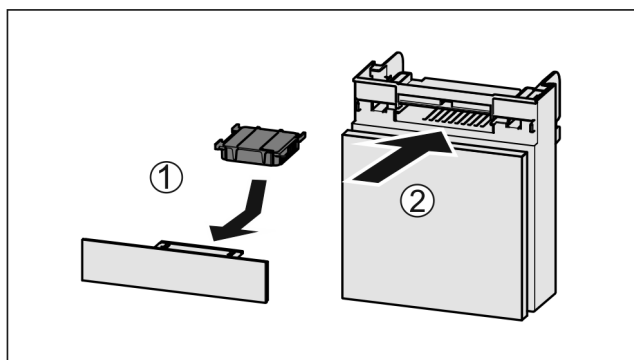

Fig. 273
- Insert the carbon filter as shown in the diagram Fig. 273 (1).
- Push the compartment in Fig. 273 (2).